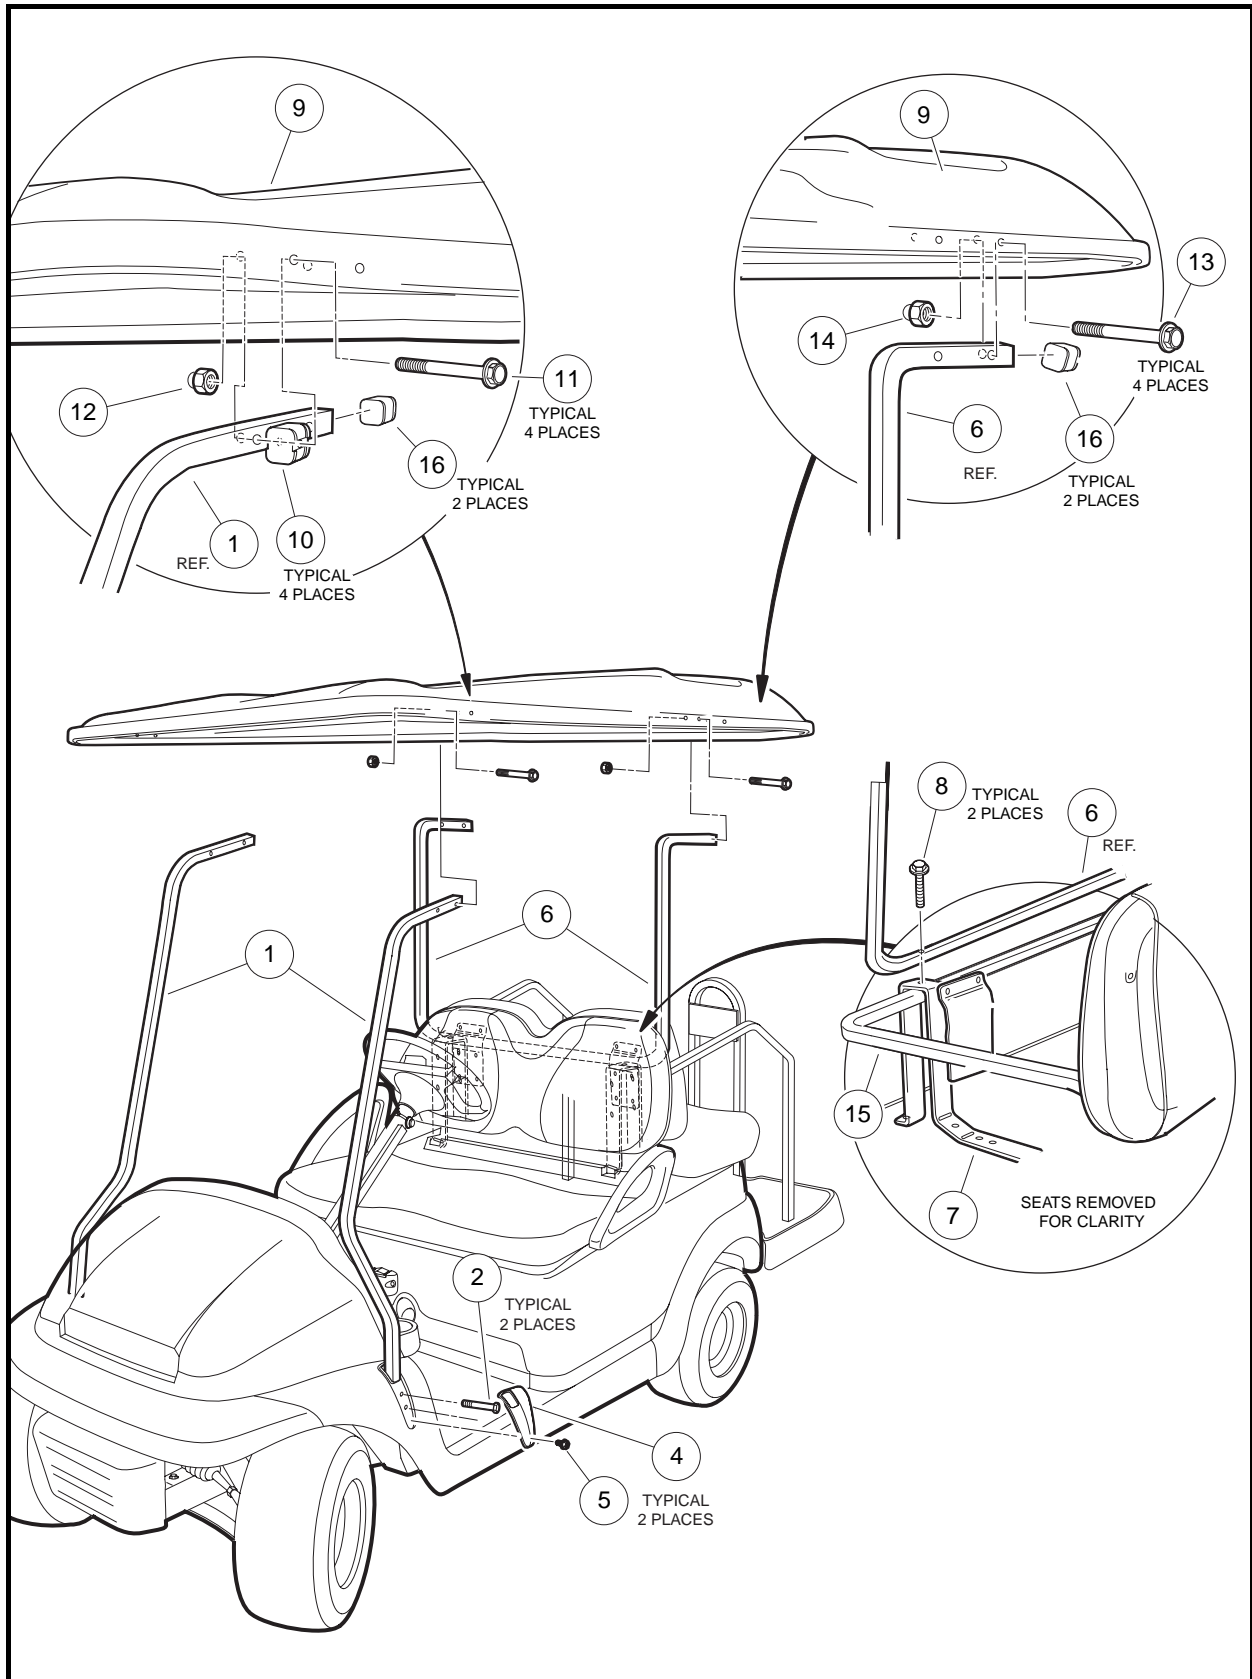

Figure 4-13 Precedent Four-Passenger Canopy
- To prevent damage to the canopy, do not remove the canopy supports (1 and 6) from the vehicle without first removing the canopy (9) (Figure 4-13, Page 4-19).
1. Remove the two nuts (12), two bolts (11), and spacers (10) from the canopy (9), and each front canopy support (1) (Figure 4-13, Page 4-19).
2. Remove the nuts (14) and bolts (13) from the canopy (9) and the rear support (6).
3. Lift canopy (9) away from front canopy supports (1) and rear support (6).
4. Remove screws (5) securing front canopy support covers to front body.
5. Slide canopy support covers (4) up front canopy supports (1) to gain access to bolts (2).
6. Remove two bolts (2) from each front canopy support (1) and remove the canopy supports from the vehicle.
7. Remove two bolts (8) from the rear support (3) and remove rear support from vehicle.
- 1.1. Ensure the front supports are properly oriented to the correct side of the vehicle as shown (Figure 4-13, Page 4-19). The lower profile of each support follows the profile of the vehicle. If the supports are placed on the wrong side of the vehicle, they will not follow the vehicle's profile.